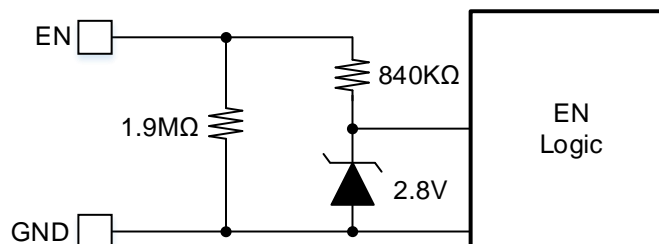

Figure 10. Zener Diode between EN and GND
Enable (EN) is a digital control pin that turns the regulator on and off. Drive EN high to turn on the regulator; drive EN low to turn off the regulator. An internal 1MΩ resistor from EN to GND allows EN to be floated to shut down the chip. EN is clamped internally using a 2.8V series Zener diode (see Figure 10). Connecting the EN input through a pull-up resistor to the voltage on VIN limits the EN input current below 100μA, preventing damage to the Zener diode.